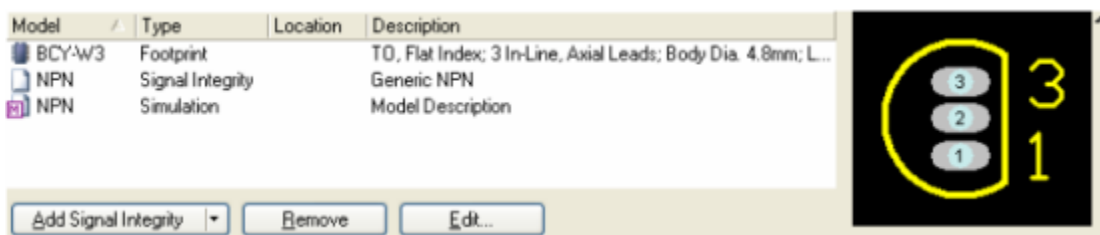

Figure 23. The simulation and signal integrity models have been added to the transistor.
3. Click **OK** to return to the *Library Component Properties* dialog where the model is added to the Models list, as shown in Figure 23.